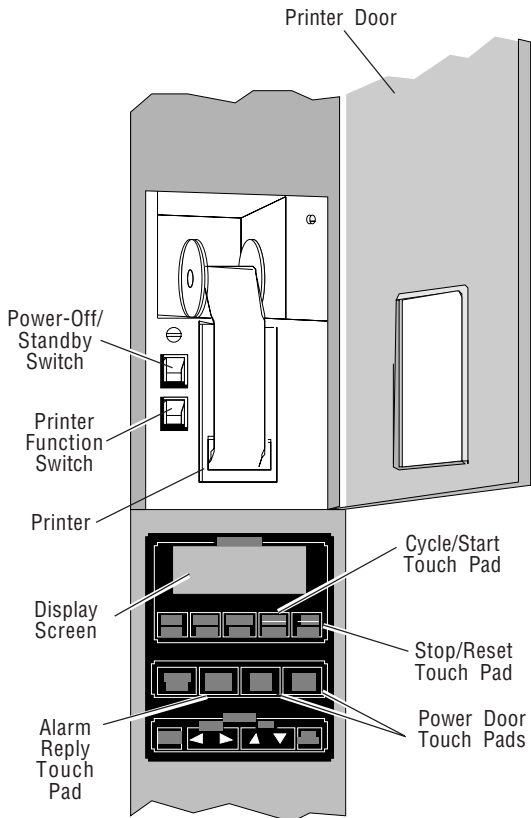

Figure 5-1. Load-side Controls and Printer
3. Set **POWER-OFF/STANDBY** switch, located behind printer door, to **POWER** (see Figure 5-1).